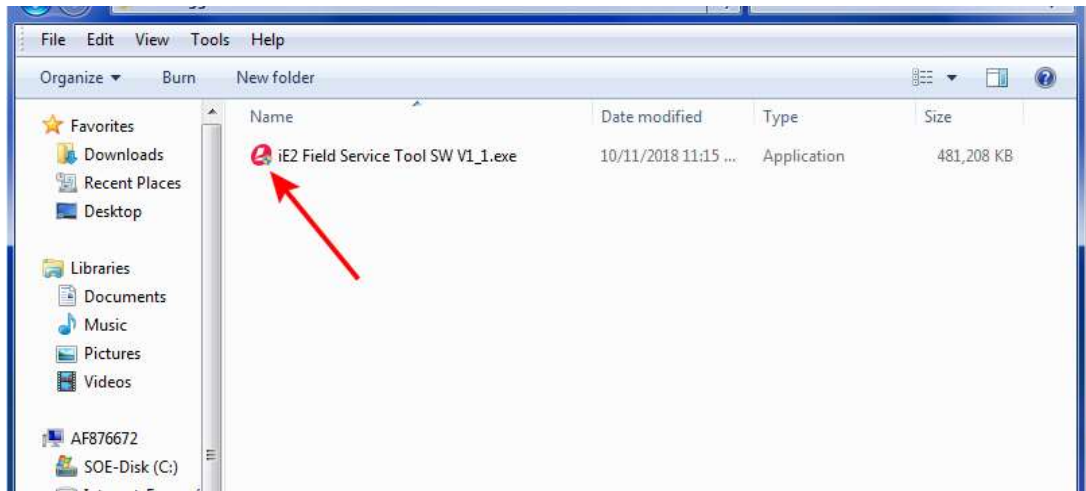

Figure C-13
11. From the file folder where the download was saved, double-click the “iE2 Field Service Tool SW” icon (Figure C-13) to open the Destination Directory.